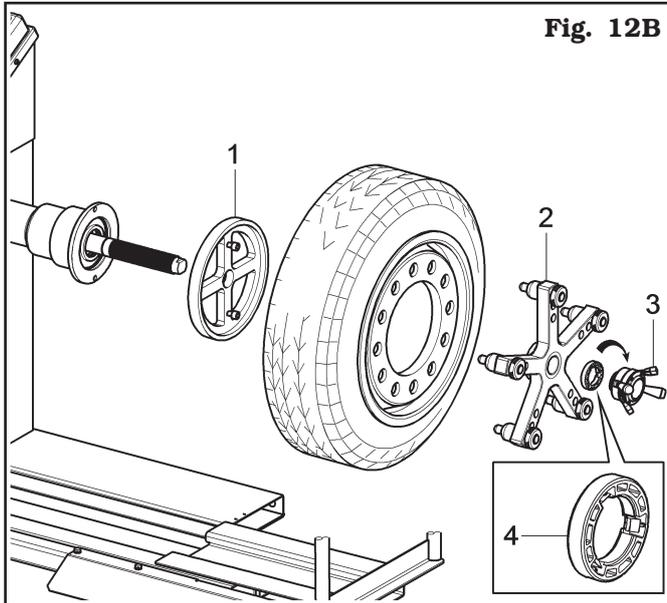

Fig. 12B
In case of wheels with peculiar sizes and features, the wheel has to be fitted onto the mandrel according to the previous instructions, however, the accessories (**Fig. 12B ref. 1-2-3-4**) shown in **Fig. 12B** shall be used.
THE PRESSURE RING (FIG. 12A AND FIG. 12B REF. 4) MUST BE MOUNTED WITH THE TEETH OR DISCHARGE SIDE FACING TOWARDS THE RING NUT (FIG. 12A AND FIG. 12B REF. 3).